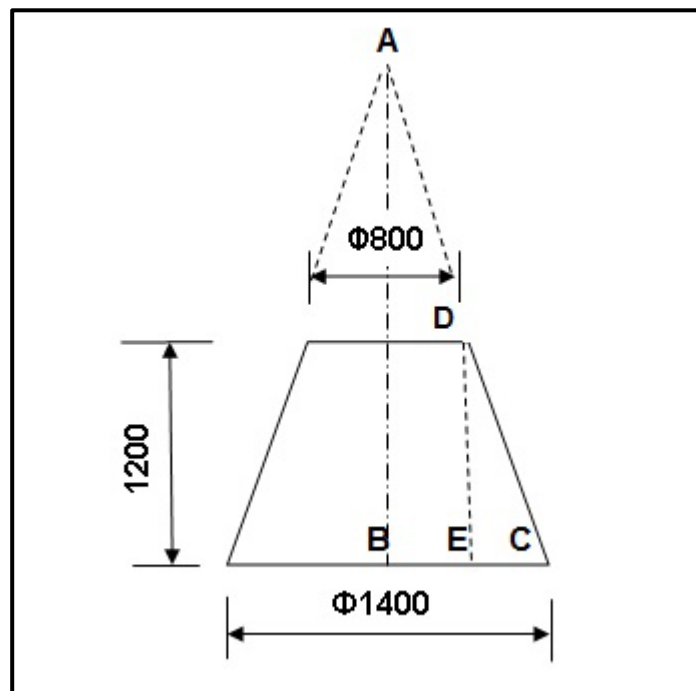

FIGURE 11.3
- 11.3 FIGURE 11.3 below shows a truncated cone.